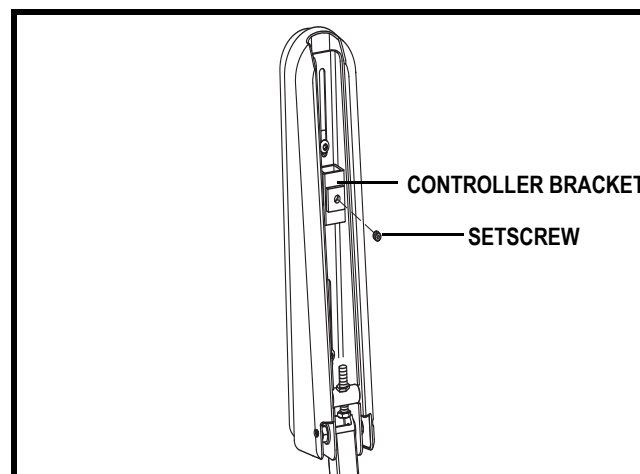

Figure 12. Controller Installation (Underside of Armrest)
2. On a contour seat, flip up the armrest and loosen the setscrew. See figure 12.
2. Loosen the setscrew on the controller bracket. See figure 12.